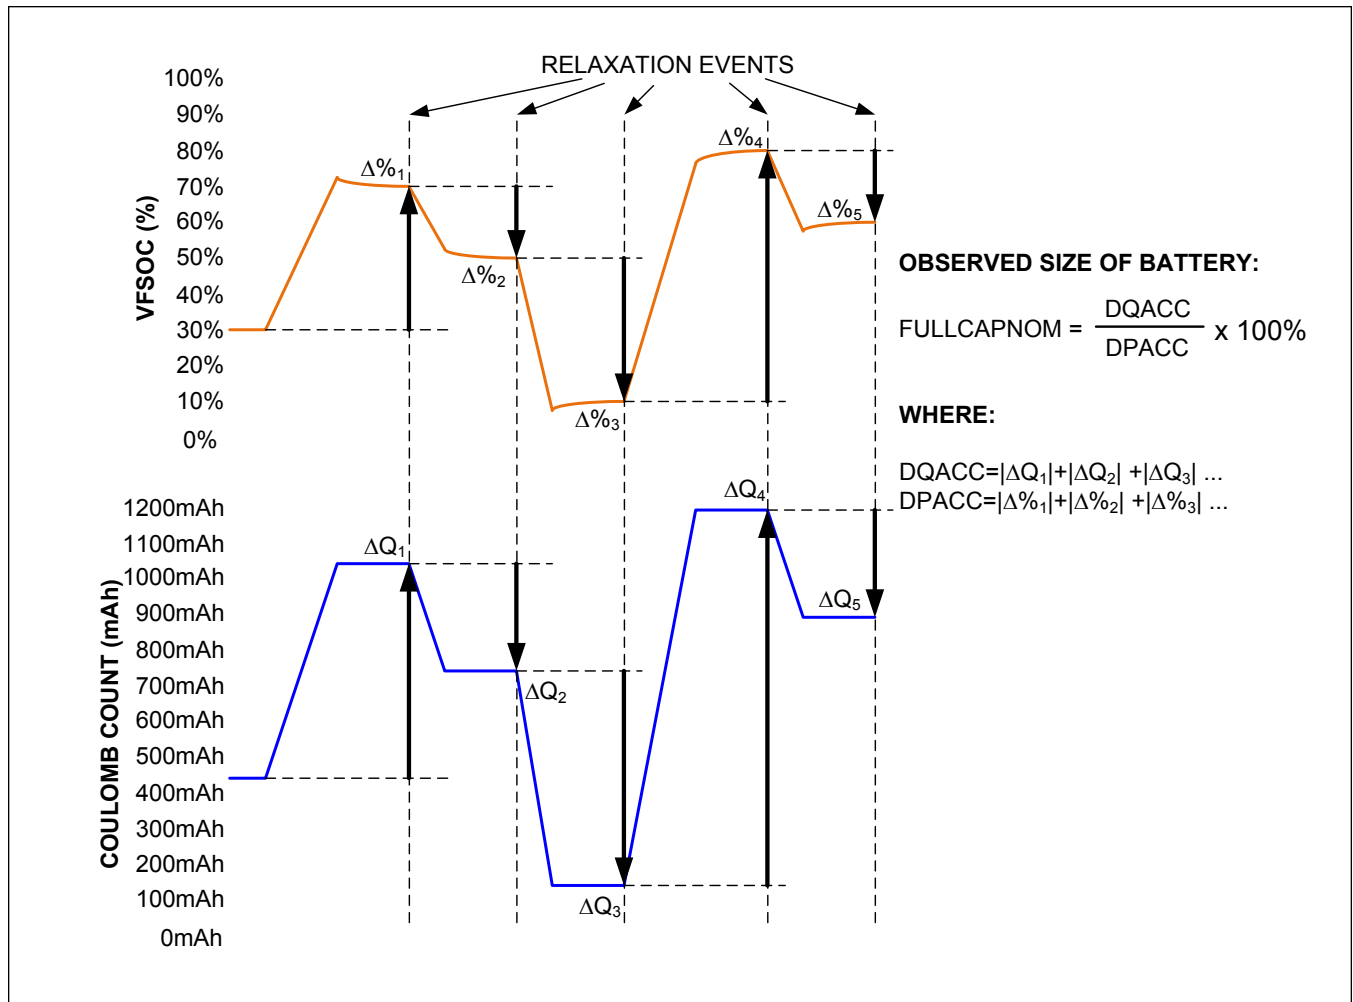

Figure 20. FullCapNom Learning
- **Cell Capacity (*FullCapNom* Register):** This is the total cell capacity at full, according to the voltage fuel gauge. This includes some capacity that is not available to the application at high loads and/or low temperature. The IC periodically compares percent change based on an open circuit voltage measurement versus coulomb-count change as the cell charges and discharges, maintaining an accurate estimation of the pack capacity in milliamp-hours as the pack ages. See *Figure 20*.